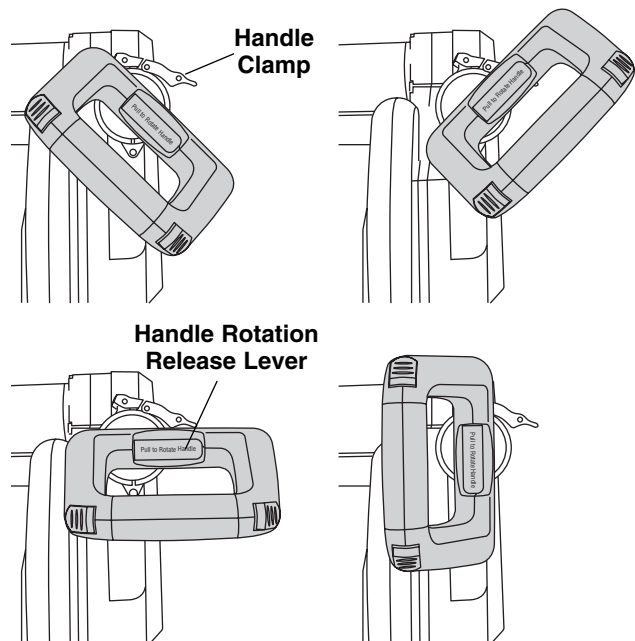

Figure 16. Setting Main Handle Position
1. Release handle clamp (Figure 16).
2. Pull and hold handle rotation release lever (Figure 16).
4. Let go over release lever to set handle into place. Release lever will retract down only in one of the four (4) positions